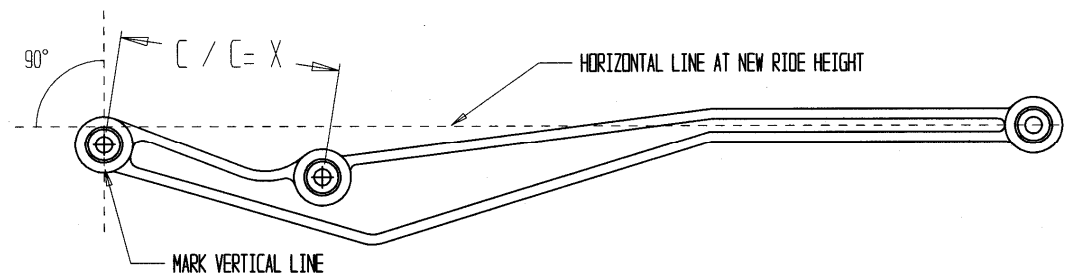

Fig.1
1. After raised suspension system has been fitted, and while vehicle is on a flat surface mark the vertical through the centre of the front original bush at 90° to the horizontal line on each leading arm. Refer fig .1